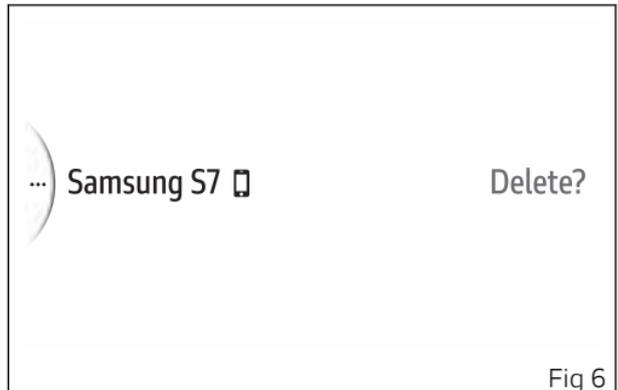

Fig 6
The paired devices are listed. Press buttons (1) and (2) to select the desired device and press ENTER (3). The message "Delete?" is shown on the right. (Fig 6) Press ENTER (3) to delete the selected device from the list: the message "Wait..." is displayed for a few seconds and then the list of paired devices is updated.